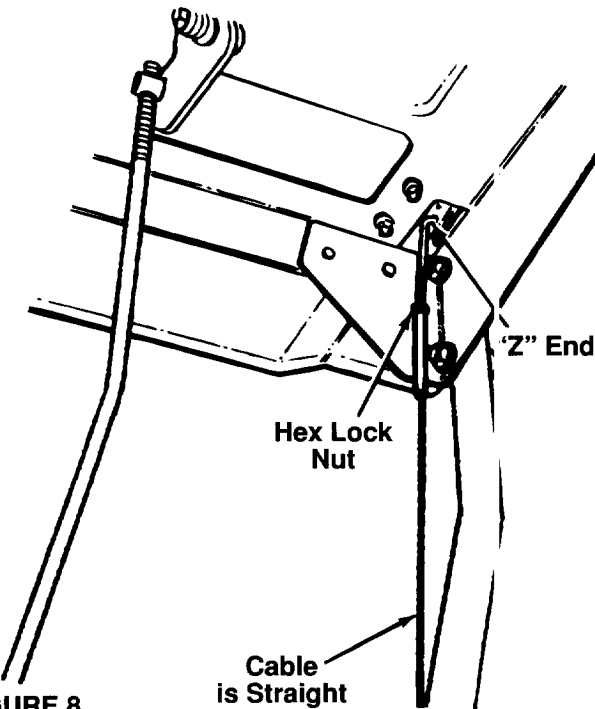

FIGURE 8.
3. Thread the cable onto the threaded portion of the "Z" end until there is no slack in the cable, but the **cable is NOT tight. Do not overtighten cable.** See figure 8.
If necessary, loosen the hex lock nut and thread the cable in (for less slack) or out (for more slack) as necessary. Refer to figure 8. Recheck the adjustment. Tighten the lock nut against the cable when correct adjustment is reached.